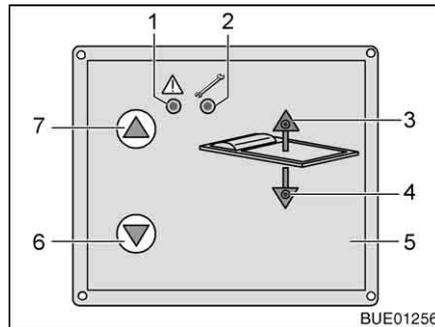

Fig. 72 Operating unit
- On the operating unit (Fig. 72,5) press and hold the button "▼" (Fig. 72,6) for approximately 6 seconds. Both LEDs (Fig. 72,3 and 4) will be green.
- Push and hold the button "▼" (Fig. 72,6) until the bed reaches the required position or the end position. The LED (Fig. 72,3) will be green.
- Push and hold the button "▲" (Fig. 72,7) until the bed reaches the required position or the end position. The LED (Fig. 72,4) will be green.
- Push and hold button "▼" (Fig. 72,6) or button "▲" (Fig. 72,7) until the bed reaches the bottom or top end position.
If the bed can no longer be moved via the operating unit and the LED "⚠" (Fig. 72,1) is flashing red, you can also operate the bunk bed manually. To do this, proceed as follows:
If the maintenance light (Fig. 72,2) lights up: Contact customer service.